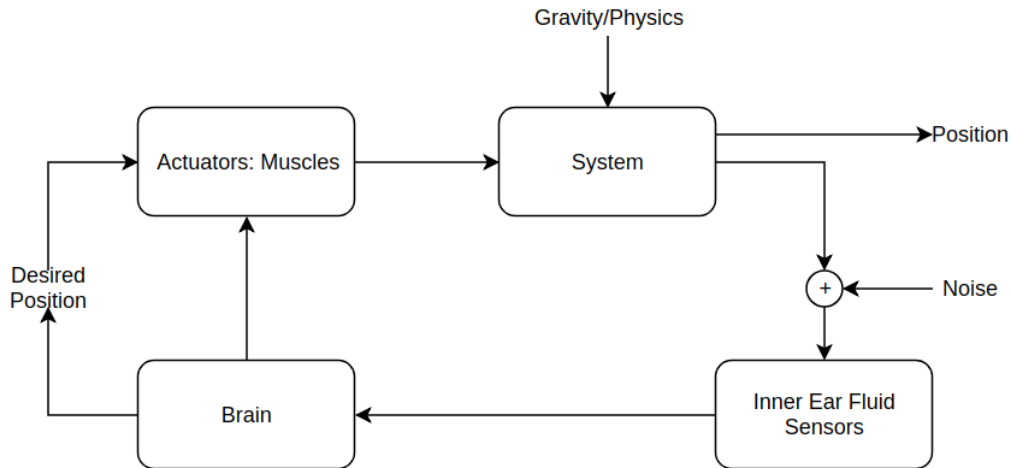

Figure 1: Non-Visual Human Balance System Diagram
- Human balance can be thought of as a control system. Though visual cues are very important, balancing with your eyes closed could be described by the system shown in Figure 1: